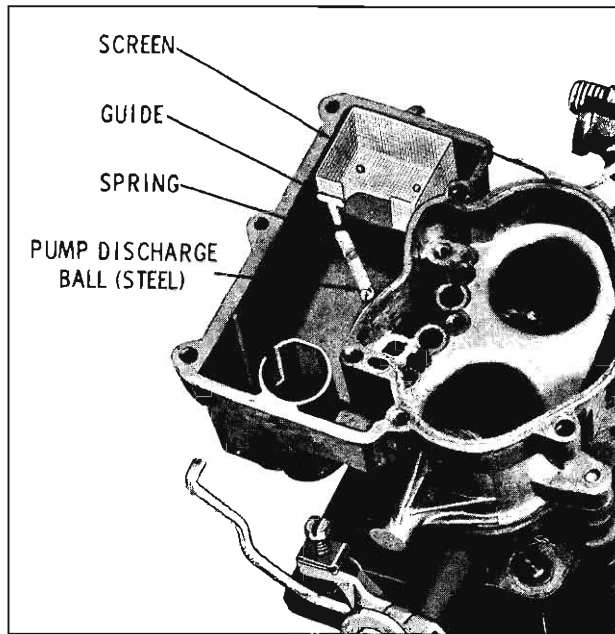

Fig. 4-42 Pump Discharge Guide
5. Using a pair of needle nosed pliers, remove the pump discharge spring guide, then remove the spring and steel ball. (Fig. 4-42)
- Install the pump discharge (steel) ball, spring and guide in the passage in the venturi cluster mounting surface. (Fig. 4-42)